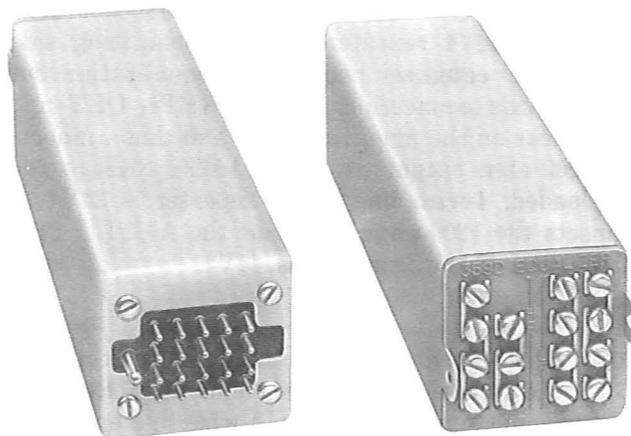

Fig. 1—359D Equalizer
2.01 The 359D equalizer (Fig. 1) is a plug-in unit equipped with a 20-pin connector plug and is designed to be plugged directly into the equalizer connector socket of the repeater mounting shelf.